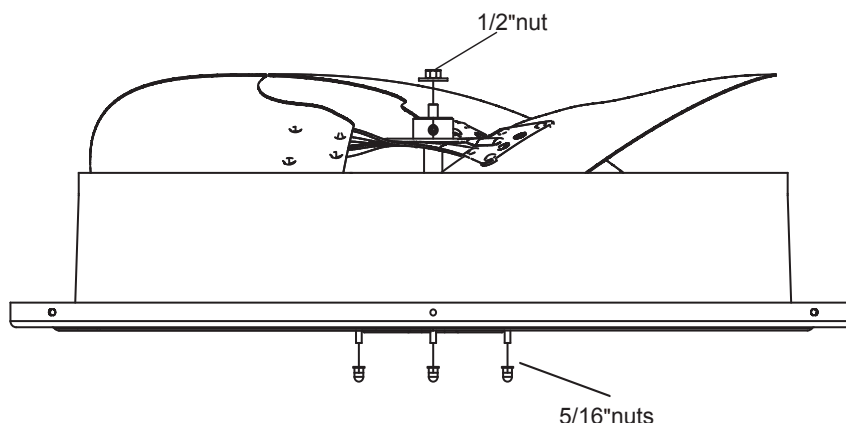

Figure 17-1
STEP 3 - Be sure to place fan cover unit on the ground (Fig.17-1).